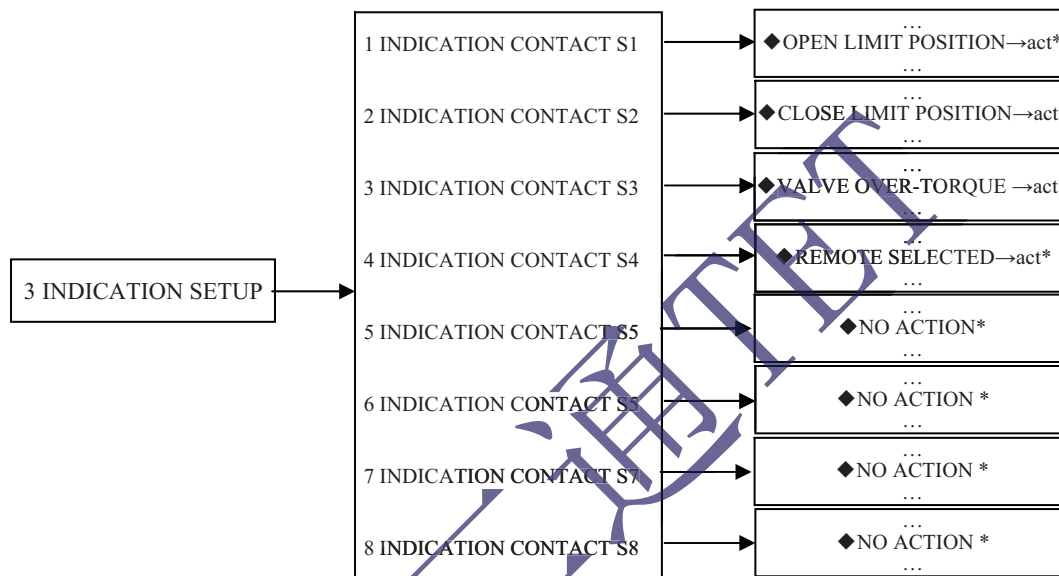

Fig.6
4.4 Indication setup(see Fig.6, Applicable actions for status relay RL1-RL8 are in the following table)